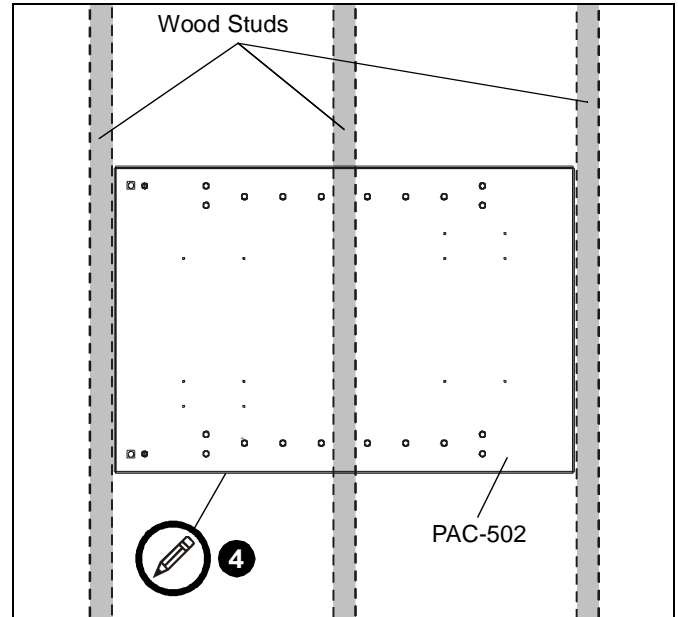
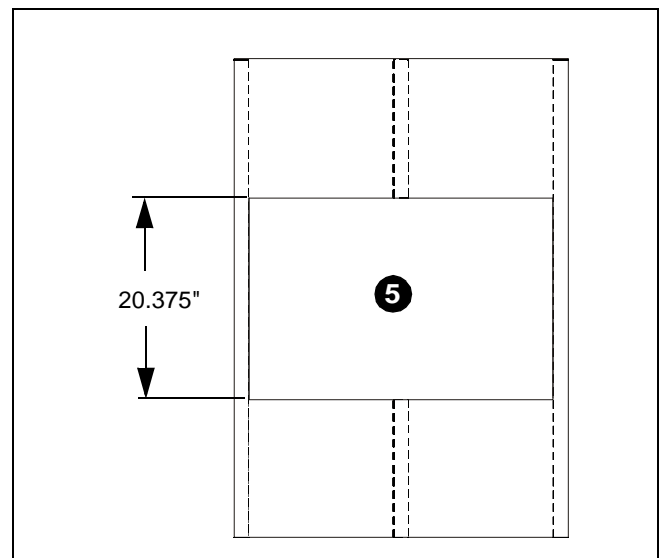

Figure 1
Figure 2
3. Center and level PAC502 housing between marked studs. (See Figure 1)
4. Using PAC502 housing as a template, draw pencil line around housing. (See Figure 1)
NOTE: If the PAC502 is not available mark opening to height dimension (See Figure 2) and to inside stud edge on either side.
5. Cut drywall on *outside* edge of line and remove drywall. (See Figure 1) and (See Figure 2)
WARNING: STRUCTURAL FAILURE HAZARD! FAILURE TO TAKE ADEQUATE PRECAUTIONS CAN LEAD TO DEATH OR SERIOUS INJURY! Ensure removal of center stud will not cause unacceptable loss of structural strength. Consult a qualified building contractor and applicable building codes. (See Figure 2)
1. Remove exposed portion of center stud flush with upper and lower drywall edges. (See Figure 2)